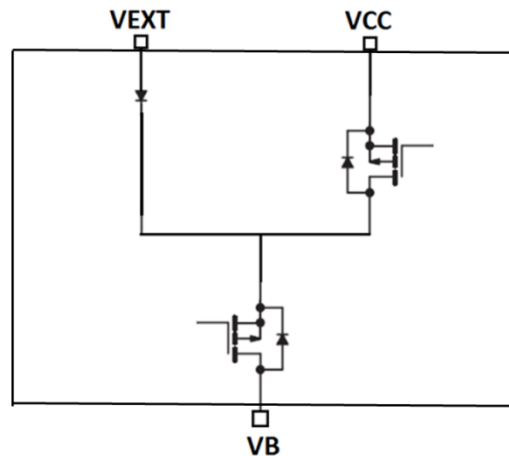

Figure 3: Simplified Circuit explaining the LDO input switch over
8. Probe Switch Node (See Figure 3) Make sure regulator is stable